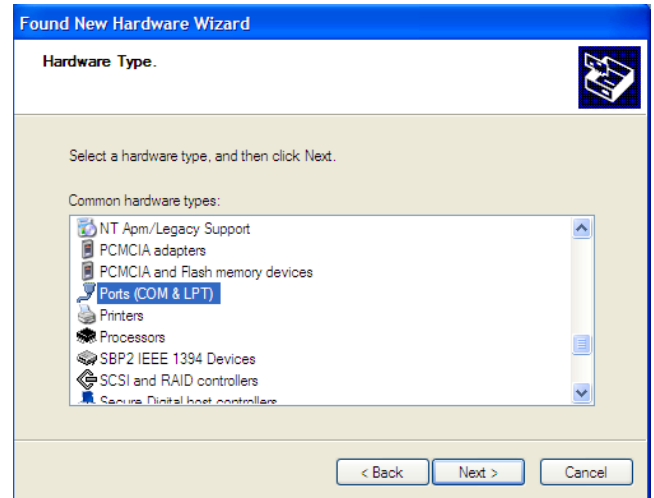

Figure 4. Select Hardware Type
5. Select **Ports (COM & LPT)** (See Figure 4), and click **Next**.